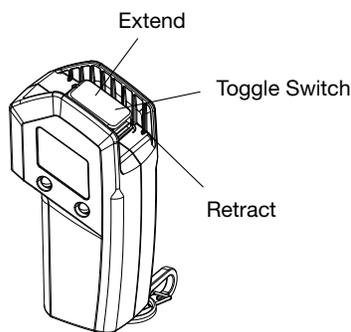

Figure 2
5. Double click Extend on toggle switch to activate remote operation. (Fig. 2)